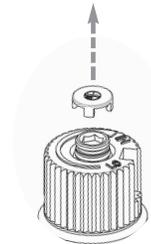

Fig.1
- 10) Remove the black protection cap by hand from the high-low knob (Fig.1).